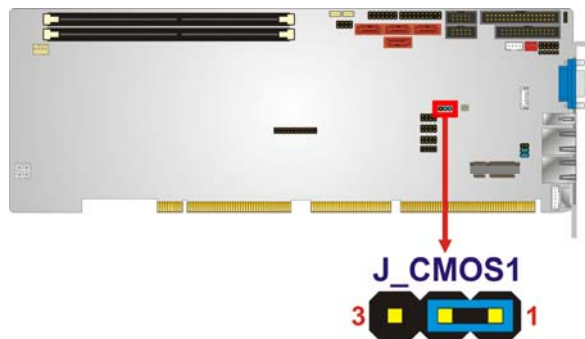

Figure 4-8: Clear BIOS Jumper Location
- Jumper Location:** See Figure 4-8